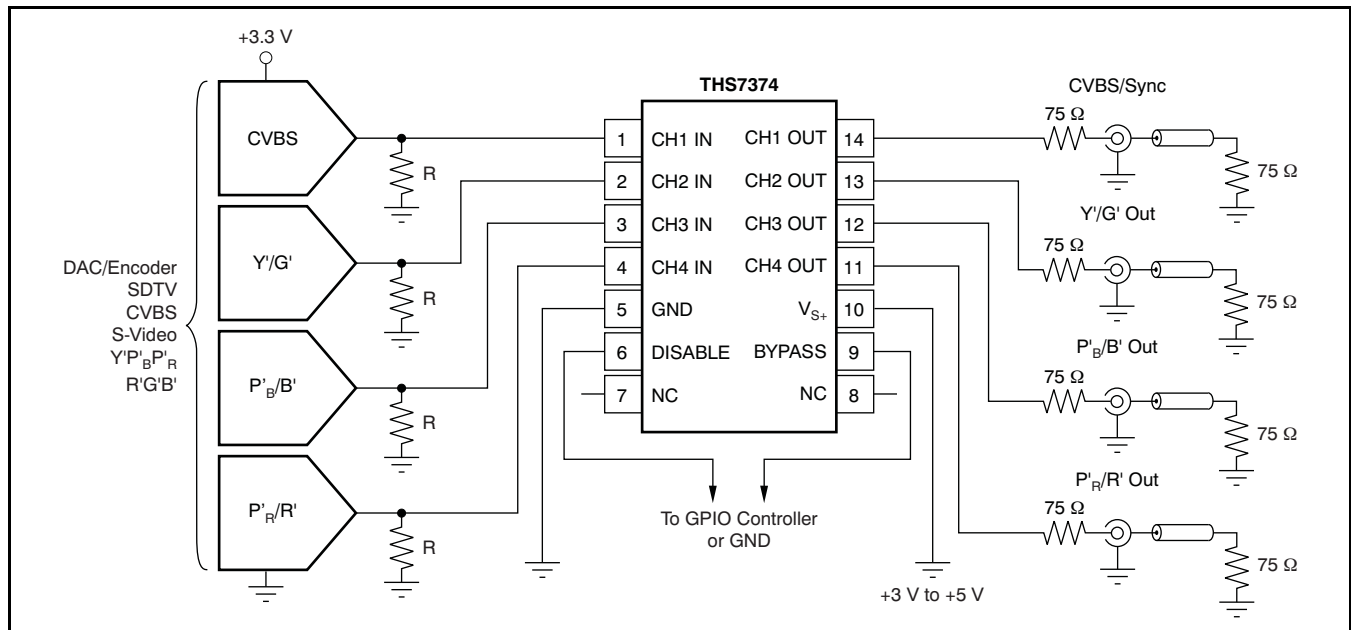

Figure 57. Typical SDTV CVBS/ $Y'P'_BP'_R$ Inputs from DC-Coupled Encoder/DAC with DC-Coupled Line Driving
A typical application circuit that uses the THS7374 as a video buffer is shown in Figure 57. It shows a DAC or encoder driving the input channels of the THS7374. One channel is a composite video (CVBS) channel of a standard definition (SD) video system. The other channels are the component video $Y'P'_BP'_R$ (sometimes labeled $Y'U'V'$ or incorrectly labeled $Y'C'_BC'_R$) signals of a 480i or 576i system. These channels could easily be the s-video Y'/C' channels or the R'G'B' channels of a SCART system.